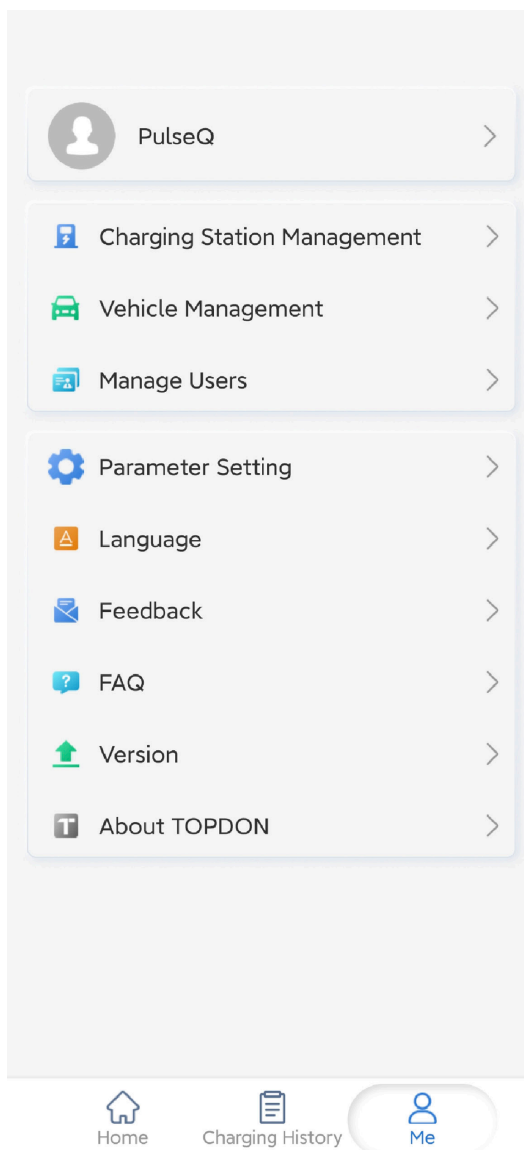

Fig.6.1.3
3. Open the app and tap the User Center, select Charging Station Management (See Figure 6.1.3)